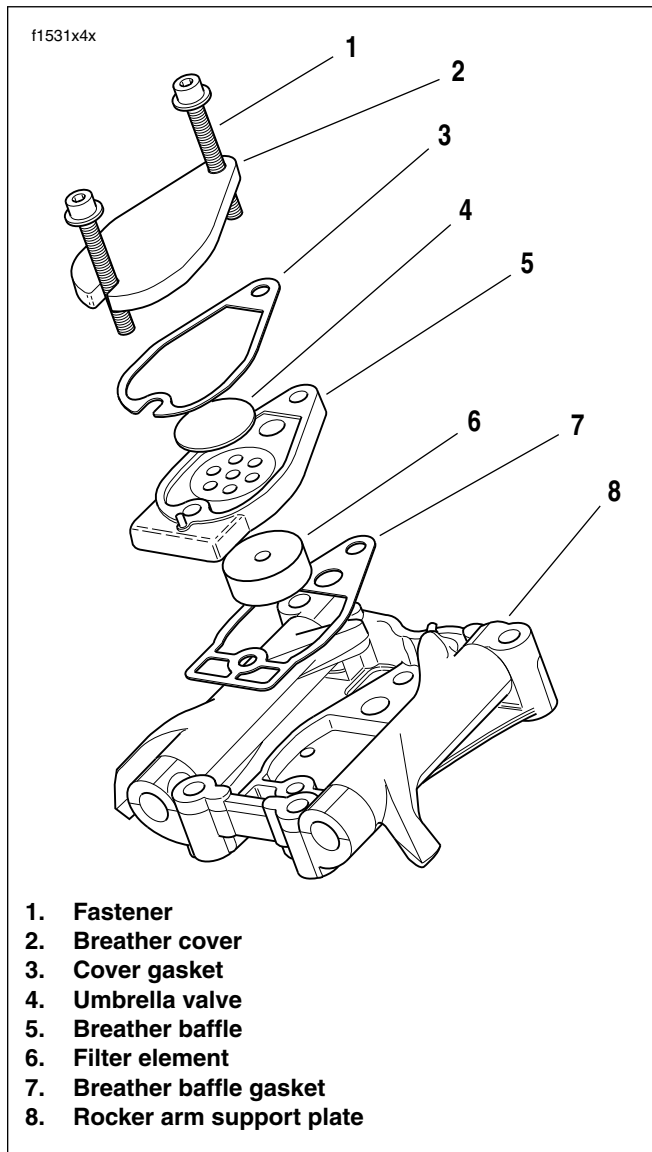

Figure 3-1. Breather Components
1. See Figure 3-1. Remove two fasteners from breather assembly.
1. See Figure 3-1. Insert stem of **new** umbrella valve through center hole at top of breather baffle. Use denatured alcohol or glass cleaner to lubricate stem. Carefully pull rubber bead on stem through hole in baffle. Verify that rubber bead is pulled completely through hole and resides on bottom side of baffle.